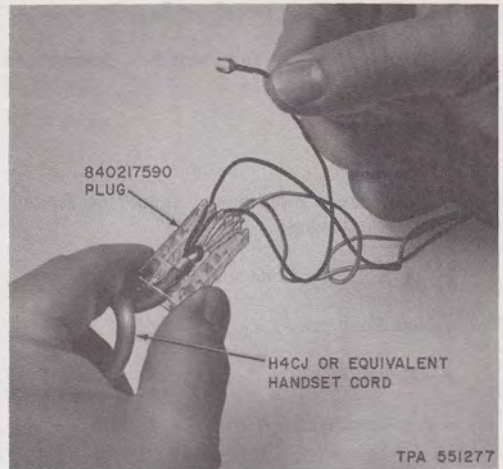

Fig. 17—Installing Spade-Tipped Handset Cords in Early Production Sets
**3.17 Installation of Spade-Tipped Handset Cords In Early Production Set Equipped With G12A Handset (Fig. 17):** To install spade-tipped handset cord (H4CJ or equivalent) remove P-376819 J Hook Stayband from the cord. Cut back and remove cord sheath to stayband marks. Thread spade-tipped conductors through plug 840217590 (ordered separately) (spade tips must be bent to clear cord entrance). Pull cord until about 1/4-inch of cord sheath is in the central cavity of the plug. Separate the conductors into two groups and tie an overhand knot, pulling the knot to the cord sheath. Pull cord from plug until strain relief position is attained by knot entering sheath and resting against plug. Feed spade-tipped conductors straight through jack P-22F620 and connect to proper terminals. Insert plug in jack.